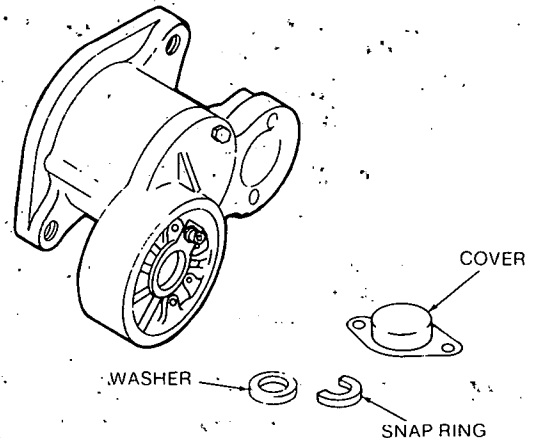

FIGURE 37b. REMOVING SNAP RING AND WASHER
5. Remove cover assembly, (snap ring and washer) from the pinion shaft (Figure 37b).